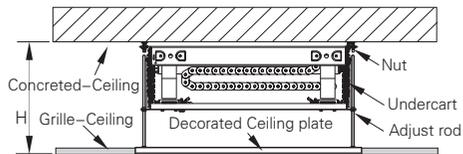

Figure 3 Standard ceiling installation
A. If  $H < H1$  (Supposed it's Maximum H2), can install project lift on the Concrete-Ceiling directly. Check Figure 3.